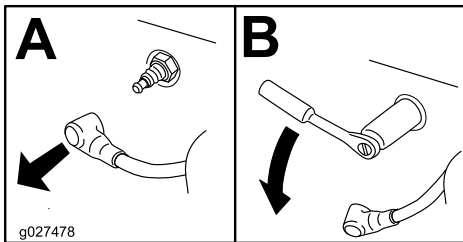

Figure 54
4. Locate and remove the spark plug(s) as shown in Figure 54.